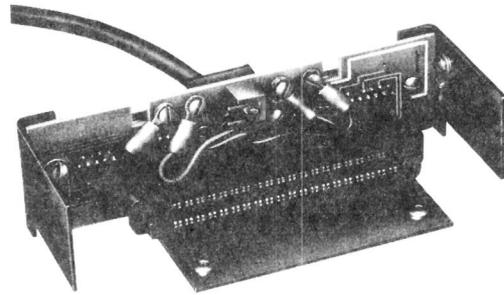

Fig. 4—Interface Assembly (P/O 47D2 Mounting)
2.07 The mounting provided as part of list 2 is extruded aluminum with brushed finish. The front and rear covers are of molded plastic with the reverse side painted black. The circuit pack assembly plugs into an interface assembly (Fig. 4) which mounts in the rear of the mounting.